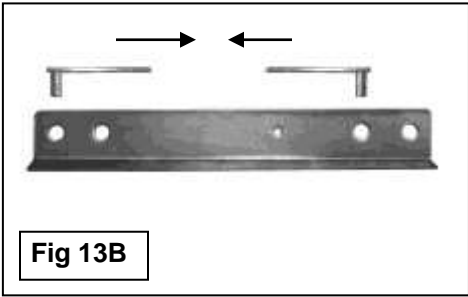

Fig 13B
11. Repeat **Steps 2 & 3** to install the (2) 10mm Bolt Plates and Rear Lock Plate, **(Figures 13B & 14)**.
other (See Fig 13B)